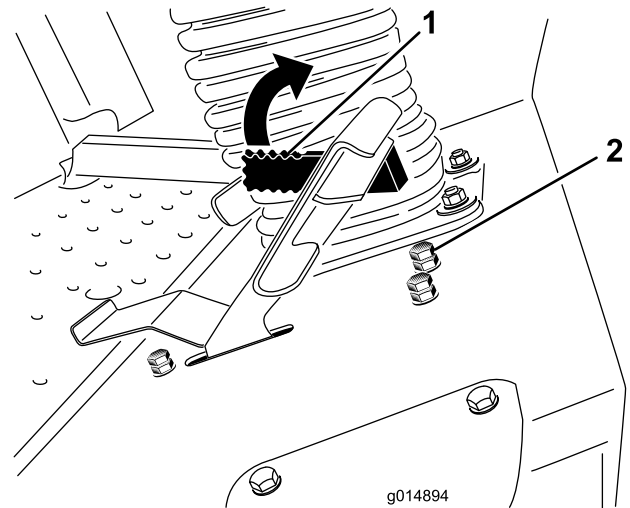

Figure 61
- Loosen the jam nut on the mow speed limiter stop bolt (Figure 61).
The mow speed limiter lever (Figure 61) can be flipped forward to limit the traction speed while operating.